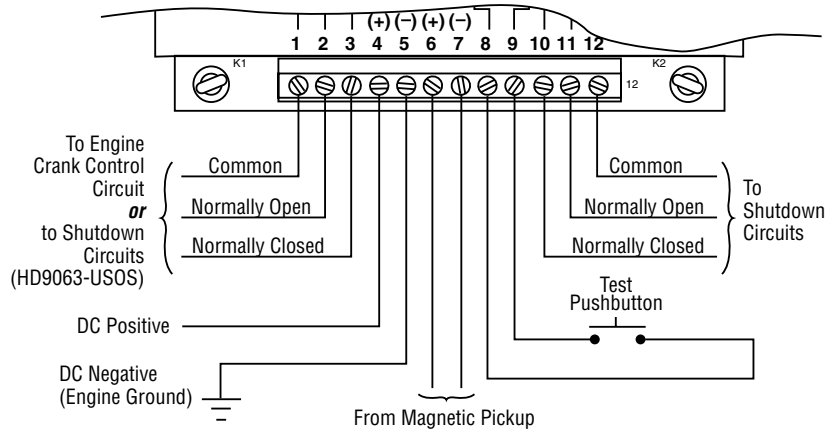

Figure 3
1. Connect terminal 5 on the HD9063 to engine ground and connect terminal 4 to battery positive (see Figure 3).
NOTE: An overspeed test switch connected as shown in **Figure 3** provides a means for decreasing set point for test purposes.